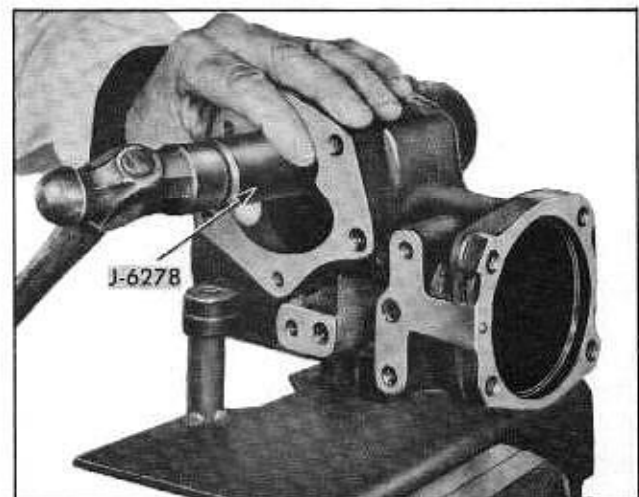

Fig. 9-42 Removing or Replacing Pitman Shaft Bushing
1. With steering gear housing supported in Holding Fixture J-5205, drive pitman shaft bushing from housing using Tool J-6278 (Fig. 9-42).